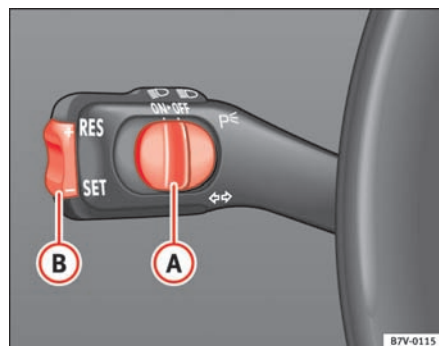
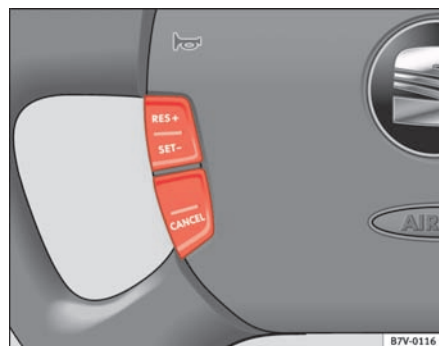

Fig. 133 Turn signal and main beam lever: switch (A) and rocker switch (B) for CCS.
Fig. 134 Multi-function steering wheel: CCS controls
- Move the control ⇒ fig. 133 (B) to the left to **ON**. The  symbol lights up in the combi-instrument when the cruise control system is switched on.
- Move the control ⇒ fig. 133 (A) to the right to **OFF** or press the key ⇒ fig. 134 **CANCEL** once.
- Press the lower part **SET** of the rocker switch ⇒ fig. 133 (B) once briefly when you have reached the speed you wish to set ⇒ fig. 134 **SET-**. This speed is then stored and maintained.
- To reach the desired speed hold down the upper part of the rocker button **RES+** ⇒ fig. 133 (B) or button ⇒ fig. 134 **RES+**.
- To reach the desired speed hold down the lower part of the rocker button **SET-** ⇒ fig. 133 (B) or button ⇒ fig. 134 **SET-**. The speed falls as the vehicle is no longer accelerating, not due to sharp braking.
To resume the control function, release the brake or clutch pedal, move the switch **A** to ON or press the button $\Rightarrow$ page 176, fig. 133 **RES+** or button $\Rightarrow$ page 176, fig. 134 once.
- Push the switch $\Rightarrow$ page 176, fig. 133 **A** to “OFF”, or